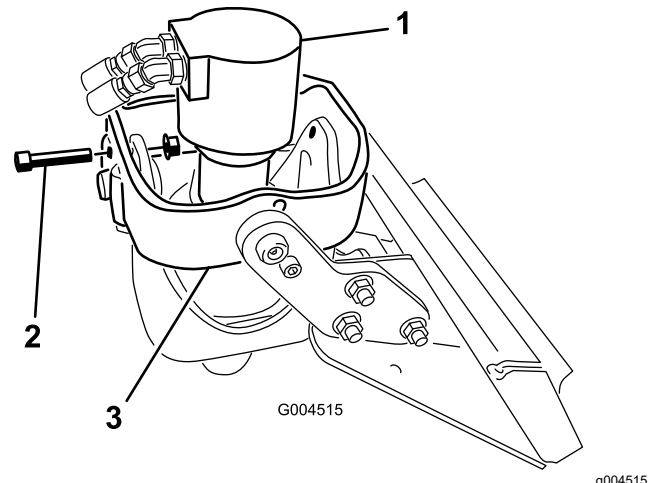

Figure 4
- B. Position the drive head vertically, slide a bolt (1/2 x 2-1/2 inches) into the holes in the front cradle arms, and secure it lightly with a flange nut (1/2 inch) as shown in Figure 4.